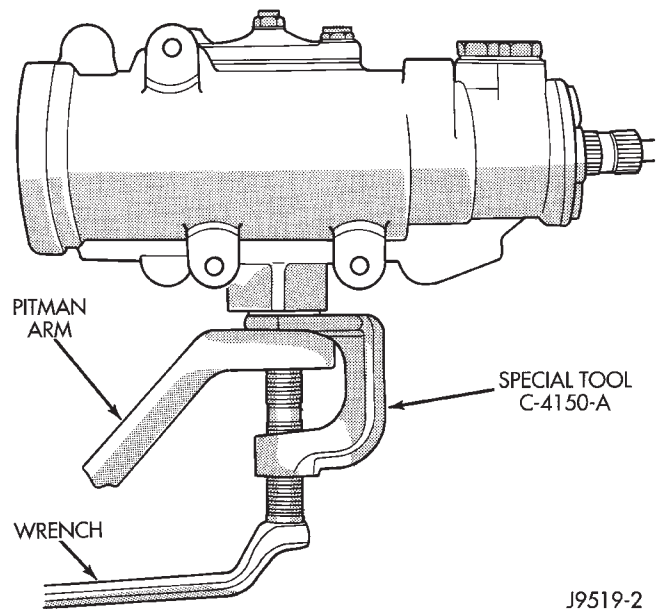

Fig. 3 Pitman Arm Removal
(1) Remove the cotter pin and nut from the drag link at the pitman arm.
(2) Remove the drag link ball stud from the pitman arm with a puller.
(3) Remove the nut and washer from the steering gear shaft. Mark the pitman shaft and pitman arm for installation reference. Remove the pitman arm from steering gear with Puller C-4150A (Fig. 3).